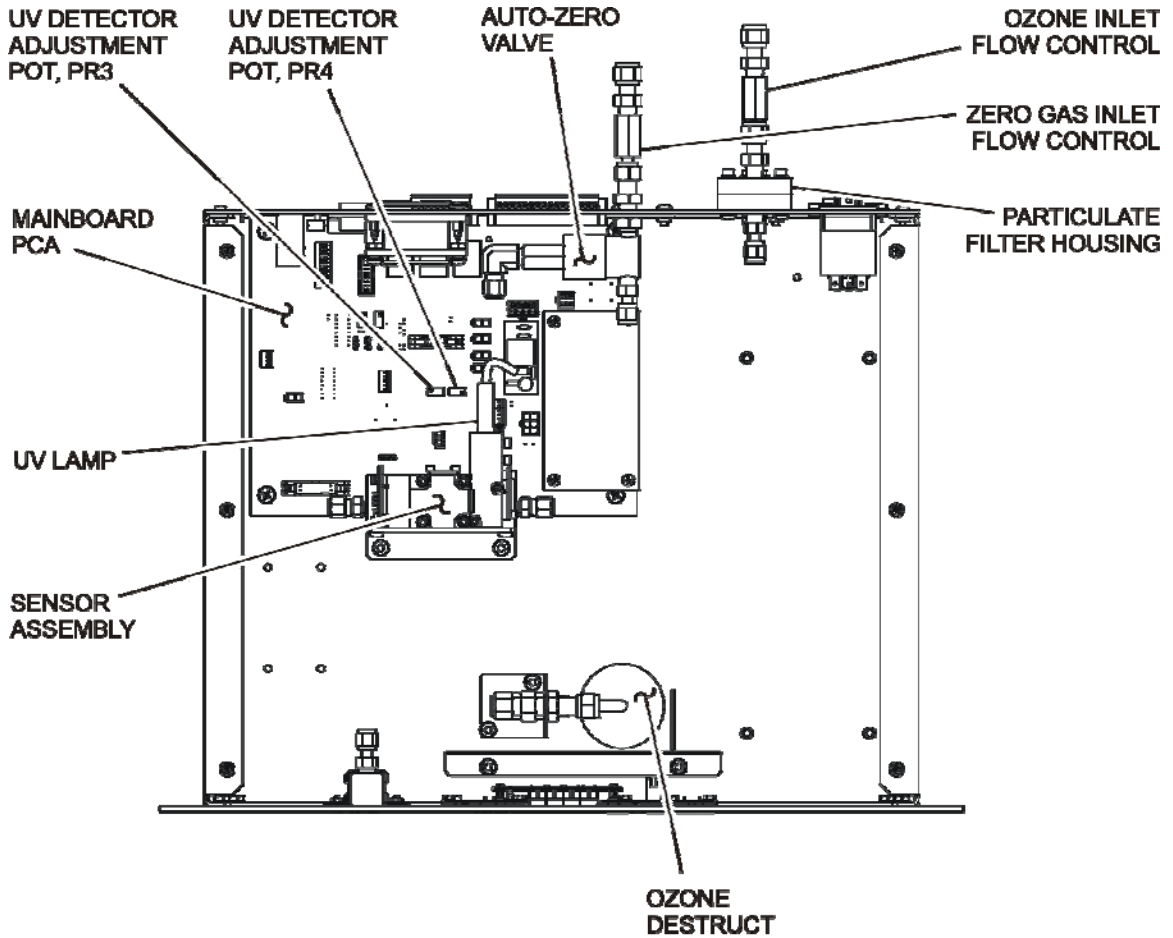
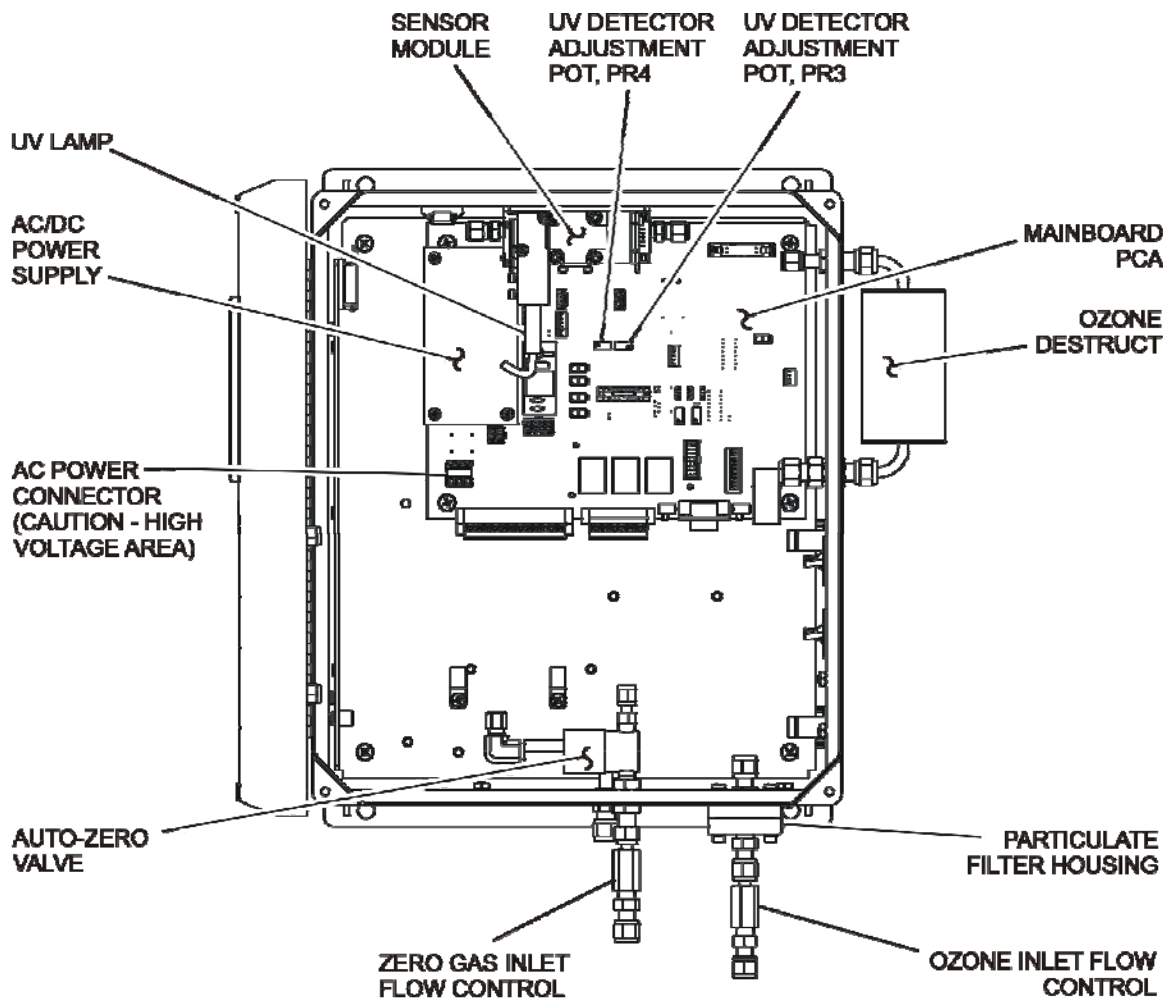

Figure 9-1: Instrument Layout, Rack Mount Configuration
Figure 9-2: Instrument Layout, NEMA Configuration
Figure 9-2 show the instrument layout of the M465H. These figures will be referenced in the procedures that follow.
2. Loosen the six screws from the top cover (Rack Mount Configuration, see Figure 9-1) or open front panel (NEMA Configuration, see Figure 9-2.)
4. Locate the particulate housing filter on the rear panel (Rack Mount Configuration, see Figure 9-1) or the bottom panel (NEMA Configuration, see Figure 9-2.)
3. Locate the Reference UV Detector adjustment pot, PR3, on the Mainboard PCA (see Figure 9-1 or Figure 9-2.)
6. Locate the Measure UV Detector adjustment pot, PR4, on the mainboard PCA (see Figure 9-1 or Figure 9-2.)
9. If the required adjustment cannot be achieved by adjusting the UV Detector pot alone, then additional adjustment can be made by loosening the two UV lamp setscrews on the UV lamp housing (see Figure 9-1 or Figure 9-2) and rotating the lamp. Rotate the lamp very slowly while observing the REF or MEAS value on the display. Make sure the lamp does not pull out and remains seated in the housing while it is being rotated. Re-tighten the two setscrews when a desired point has been reached.
3. Loosen the two UV lamp setscrews on the UV lamp housing (see Figure 9-1 or Figure 9-2.)
3. Locate the Mainboard PCA (see Figure 9-1 or Figure 9-2).